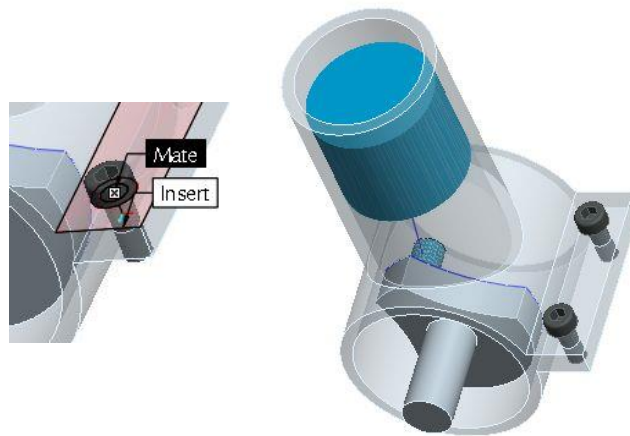

Figure 22 – Bolts
- In the model tree, select **Bolt\_8.prt**, right-click, and select **Edit Definition**. Constrain the bolt as shown Figure 22 and then click **Complete Component** .